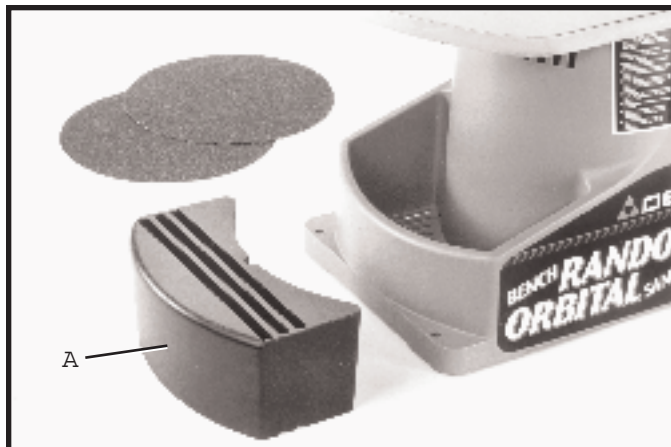
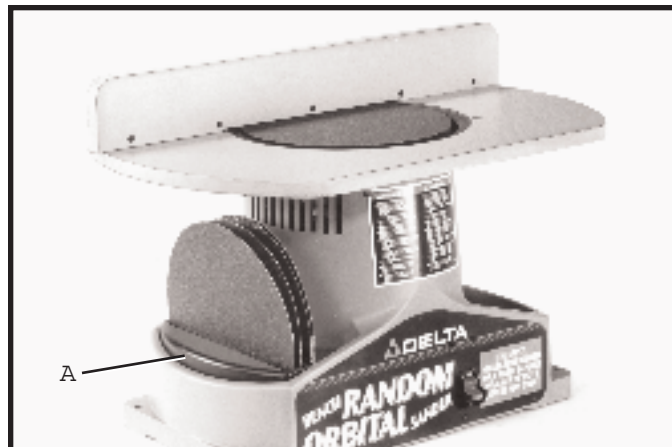

Fig. 16
Fig. 17
An accessory abrasive disc holder (A) Fig. 16, is available to conveniently store extra abrasive discs. The disc holder (A) slides neatly into the pocket of the sander as shown in Fig. 17.